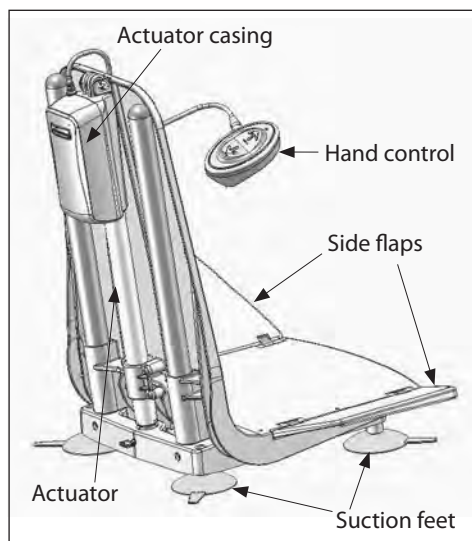

Figure 2
- Run water to any level under the actuator casing (**fig 2**).
- A battery (**see fig 2**)
- A battery charger with charging cradle attached (**see fig 2**)
- i) Slide the battery into the tracks on the charging cradle until it clicks into place (**see fig 2**).
- iii) The light indicator on the charger box will initially flash in a quick sequence of red, green, red, green, before a constant red light appears to indicate charging is in progress (**see fig 2**).